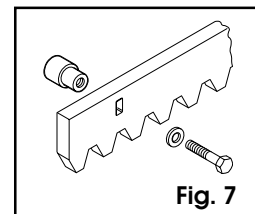

Fig. 7
1) Fit the rack by means of the screws TE 8 x 25 and the spacers provided, as shown in figure 7.